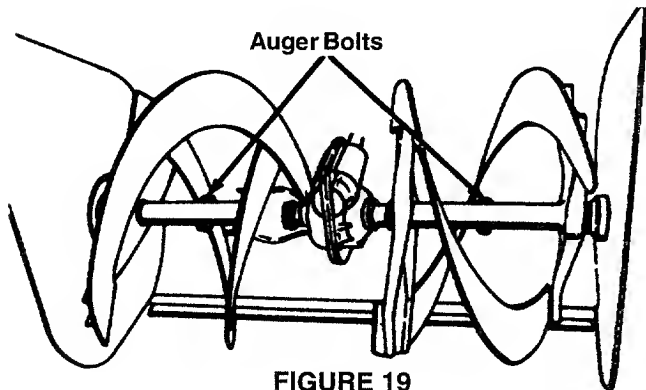

FIGURE 19
- If the augers will not turn, check to see if the bolts have sheared. Replace if necessary. See figure 19. Two replacement hex bolts and hex lock nuts have been provided with the snow thrower.